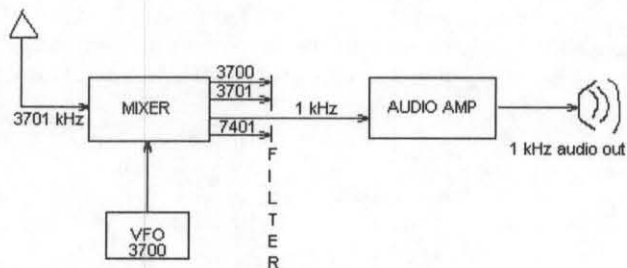

Figure 1. Block diagram of a Direct Conversion receiver.
Well, you will need to know more about receivers and transmitters before you can answer the questions about offsets for yourself. Let's consider a simple receiver type favored by homebrewers, the Direct Conversion (DC) receiver. Figure 1 shows the block diagram of a typical DC receiver. In a DC receiver, the local oscillator (VFO) signal is mixed with the incoming signal to directly produce an audio output signal. The general principle of mixers is that the output products of any mixer always include the two original signals, plus the sum and difference of those two signals. Thus, the two input signals to our receiver are 3700 and 3701, and the four output products are 3700, 3701, and 7401, and 1 kHz. Only the 1 kHz product signal is in the audio range, so we can hear that mixer product when it has been amplified by a simple audio amp. So, a DC receiver is just a single oscillator,
a mixer, and an audio amp. Connect them up with a bit of filtering and you have a working model. Compare Figure 1 with the "Neophyte Receiver" in the February 1988 issue of QST for a good example of this setup.¹ In the Neophyte, the VFO and mixer are both on the same IC chip!